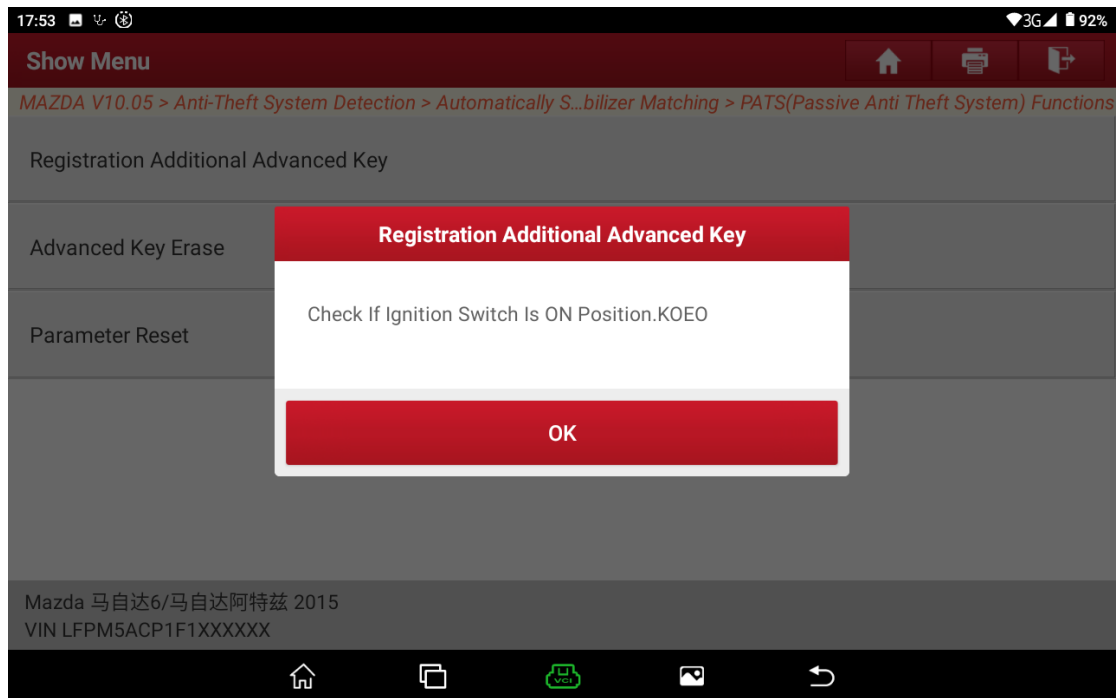

Figure A12
10. Prompt to turn on the ignition switch. See Figure A12.